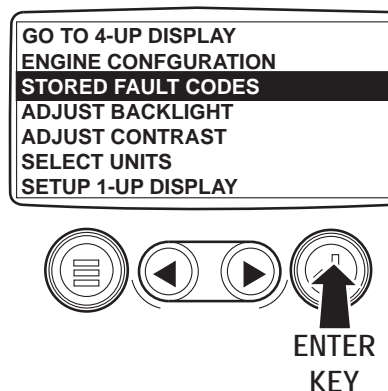

Figure 5 - Main Menu
2. Using the Right Arrow Key, toggle down the list until STORED FAULT CODES is highlighted. See Figure 5.